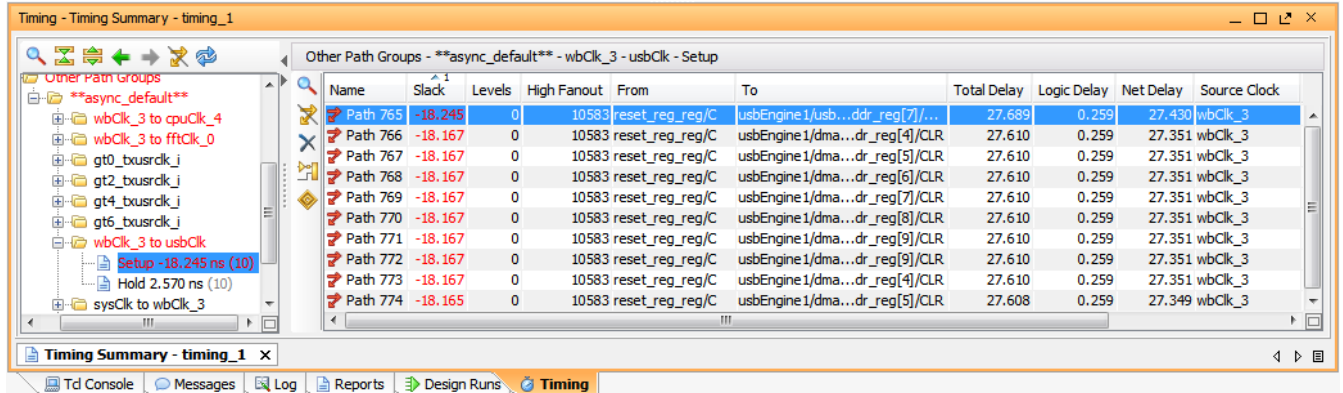

Figure 29: Worst Negative Slack
2. **Click** the hyperlinked value for the **Worst Negative Slack** (WNS) to select and display the timing path with the worst slack as shown in Figure 29.